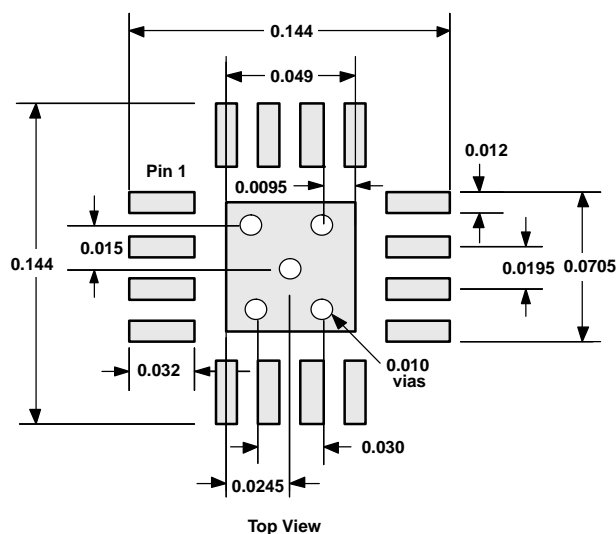

Figure 49. PowerPAD PCB Etch and Via Pattern
1. Prepare the PCB with a top side etch pattern as shown in Figure 49. There should be etch for the leads as well as etch for the thermal pad.